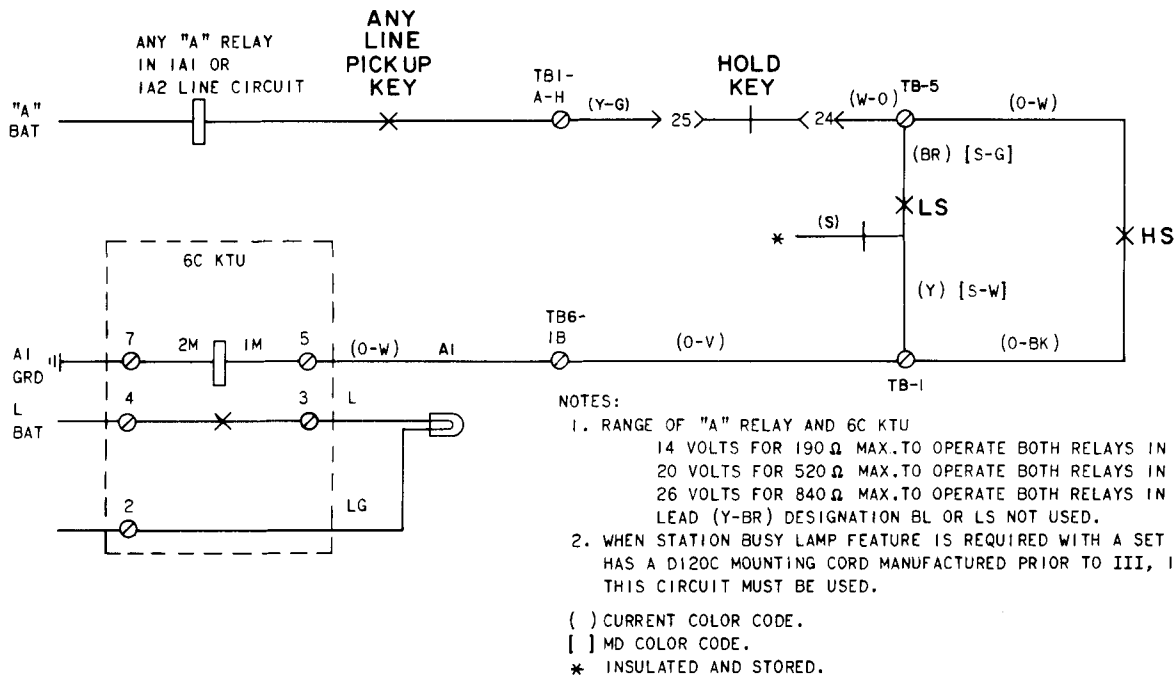

Fig. 5—Busy Lamp Control Using 6C KTU
2.05 Sets equipped with a D120C mounting cord manufactured prior to III 1968 must use circuit per Fig. 5 to provide station busy lamp feature.